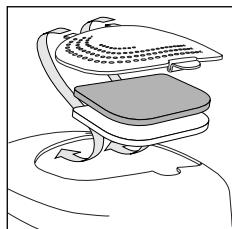

fig. 13
N.B: The white filter must rest on the metal part (Fig. 13) and the coloured area must face upwards (towards the black filter). Reassemble the filter cover, being careful to insert the front hooks correctly.